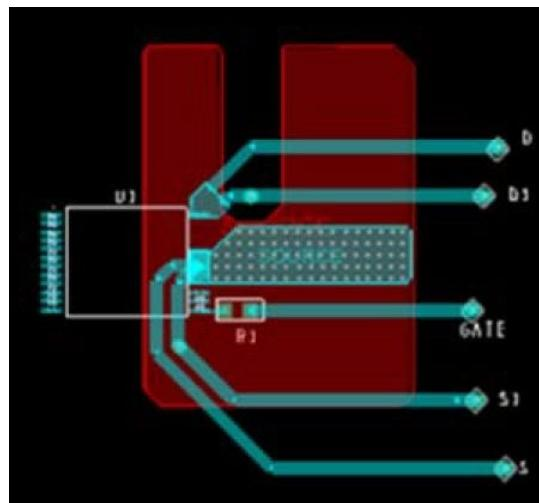

Figure 22. Thermal Resistance Test Conditions for PowiGaN Devices (LYT6079C and LYT6070C.)
Testing performed on custom thermal test PCB as shown in Figure 22. The test board consists of 2 layers of 2 oz. Cu with the InSOP package mounted to the top surface and connected to a bottom layer Cu heat sinking area of 550 mm².
4. Please see Figure 22.⁸